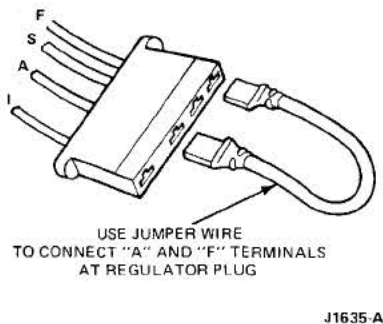

FIG. 3 Regulator Plug Jumper Wire Connections
2. If the load voltage did not increase 1/2 volt above the base voltage, connect a jumper across the A and F terminals of the plug and repeat the LOAD TEST (Fig. 3).
1. Disconnect the regulator wiring plug and install a jumper wire between the A and F terminals (Fig. 3).
3. Connect a jumper between A and F terminal of voltage regulator wiring plug (Fig. 3).